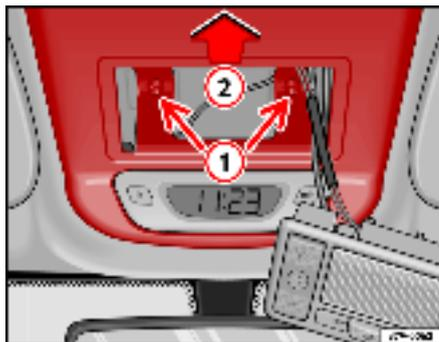

Fig. 68 Manual release
- Invert the screwdriver head and undo the two Philips screws (1) ⇒ fig. 68.
- Move the cover in the direction of the arrow (2) and remove ⇒ fig. 68.